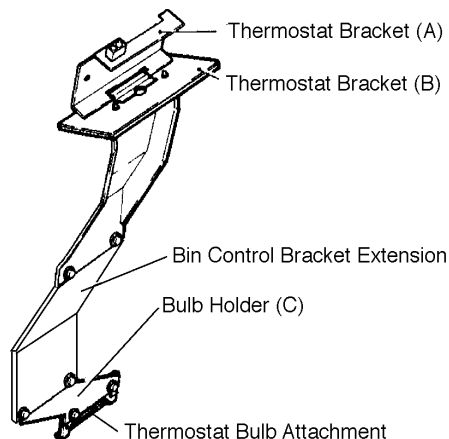

Fig. 3c
- (j) Use the two screws from (i) to attach the Bin Control Bracket Extension to the Thermostat Bracket (B).
- (k) Use the two 4 x 10 stainless steel screws in the accessory bag to attach the Bulb Holder (C) (with attached Thermostat Bulb) to the Bin Control Bracket Extension. See Fig. 3c.